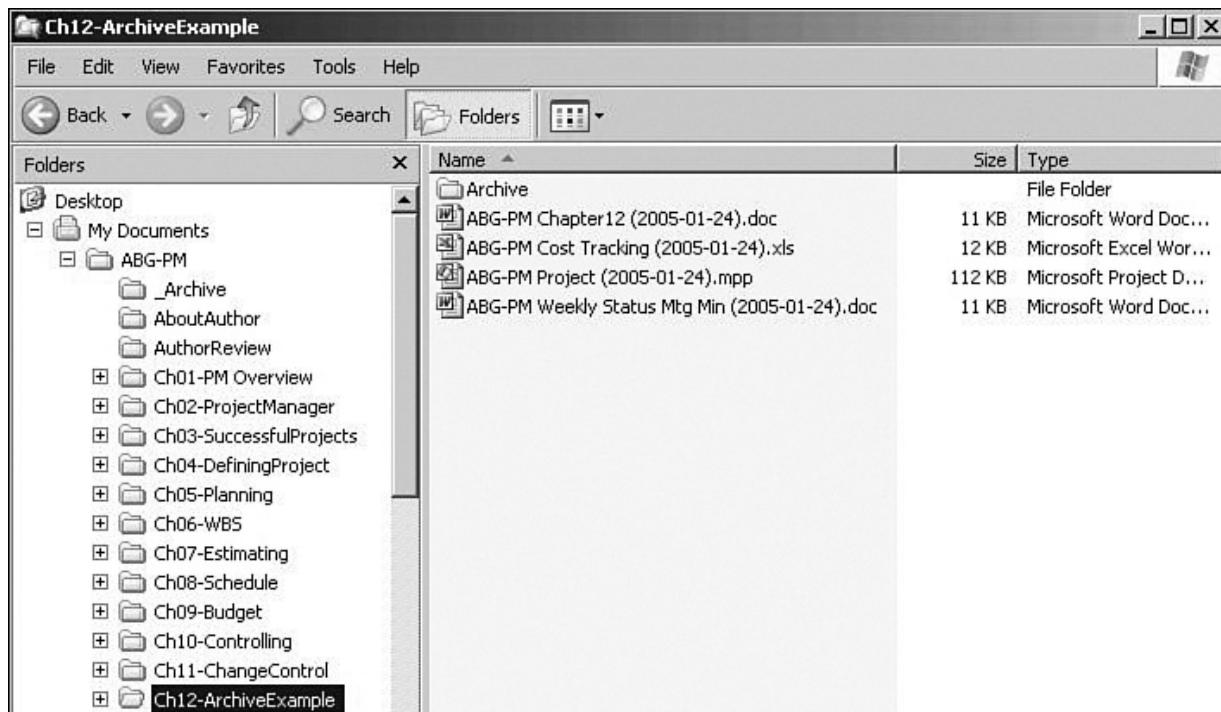

Figure 12.1. Sample use of archive subfolder.
- **Leverage archive folders**—A simple but powerful technique to help you manage (and not lose) project information is to always create an archive folder within a specific project directory to hold any previous versions, as illustrated in Figures 12.1 and 12.2. This is especially useful for digital work items that are not managed by a configuration management tool. This practice also has the added benefits of better organization and better visibility of the most current work items.